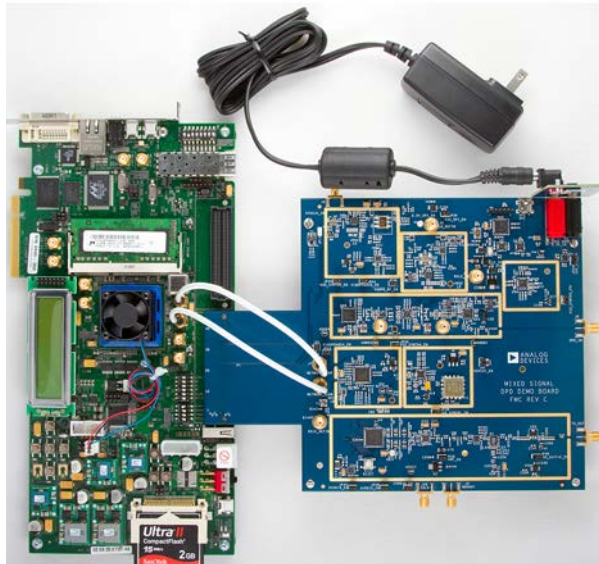

Figure 5. Xilinx ML605 and AD-MSDPDX-9434/AD-MSDPDX-6641
- a. If the Xilinx ML605 development kit is being used, connect two matched length short SMA cables from J7 and J8 on the MSDPD board (NETWORK_CLKP/NETWORK_CLKN) to J58 and J55 on the ML605 board (USER CLK P/USER CLK N), respectively. Next, connect the Xilinx board to the AD-MSDPDX-9434/AD-MSDPDX-6641 board via the FMC connectors (see Figure 5).